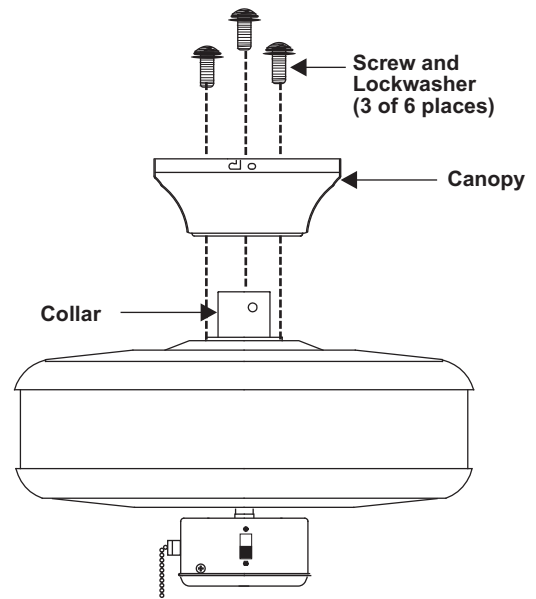

Figure 9
4. Remove three of the six screws and lock washers (every other one) from the collar of top motor. (Fig. 9)
5. Place the ceiling canopy over the collar at the top of the motor. Align the mounting holes with the holes in the motor and fasten using the screws and lock washers provided (Fig. 9).
6. Tighten the mounting screws securely. (Fig. 9)